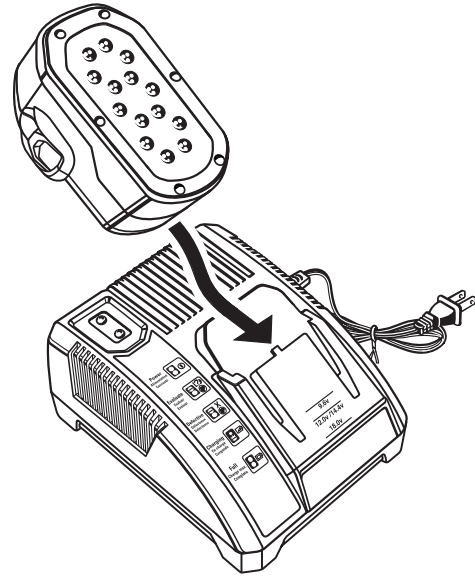

Fig. 2
- Attach the battery pack to the charger by aligning the raised ribs on the battery pack with the grooves in the charger, then slide the battery pack onto the charger. *See Figure 2.*